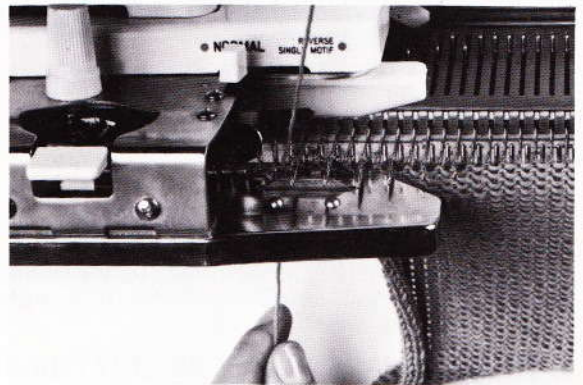

Fig. 132
- Thread weaving yarn B in tension assembly (a thicker yarn than main yarn A) and through the right hand weaving guide (fig. 132).